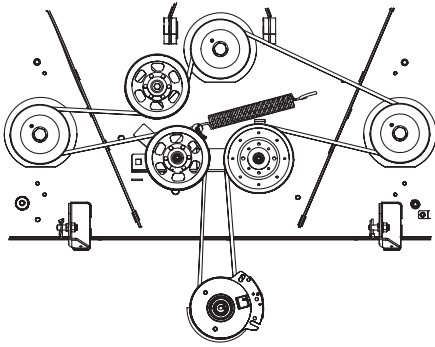

Figure 4-19
6. Place the belt around the idler pulleys removed in step 3 with the "V" side facing in. Once in place, reinstall all the hardware and tighten the flange lock nut to secure the assembly. See Figure 4-19.
7. Route the belt as shown in Figure 4-19 and then reinstall the deck (refer to Deck Installation).